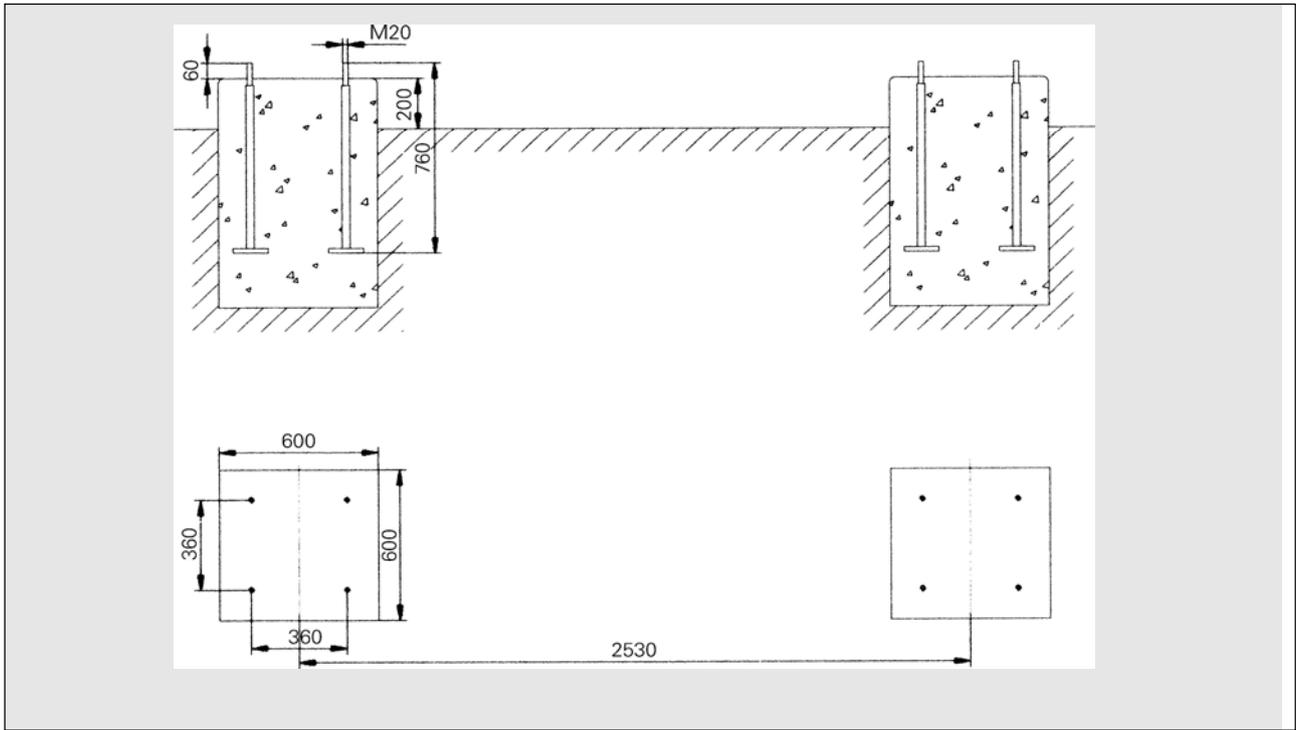
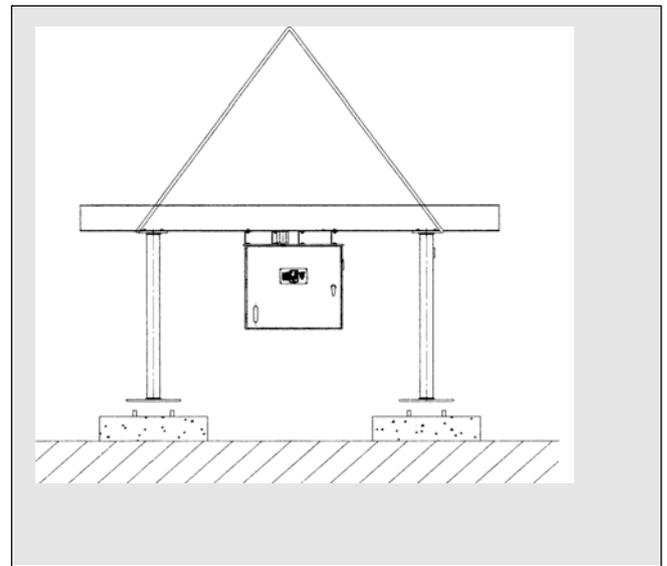

Figure 10. Foundation Installation
figure 11. Base Installation
- Before installing the circuit breaker, check if the anchor bolts (8-M20×600/GB799-88) are in accordance with the specifications and the length of the extended part of the bolts meets the specified requirements. Check the levelness of the foundation with level meter and the height difference between the surfaces of two foundations should be less than 2 mm (see figure 10).
The circuit breaker base and the operating mechanism pack the exwork together, after hitting foundation like figure 10, lifts with the hoisting equipment the base module to the ground see figure 11, use 8 nuts M20 to fix it in the ground. After the base installs the fastening, adjusts the base plane with the horizon, levelness should not be bigger than 2mm.